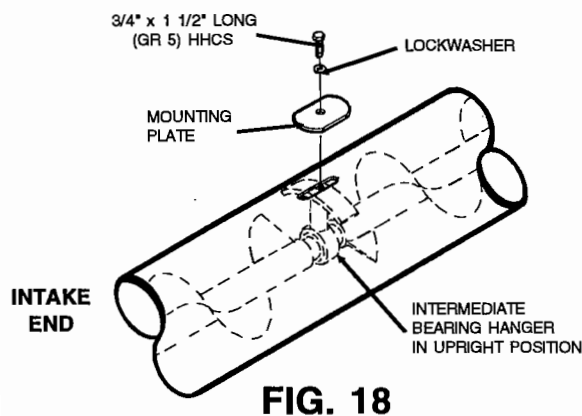
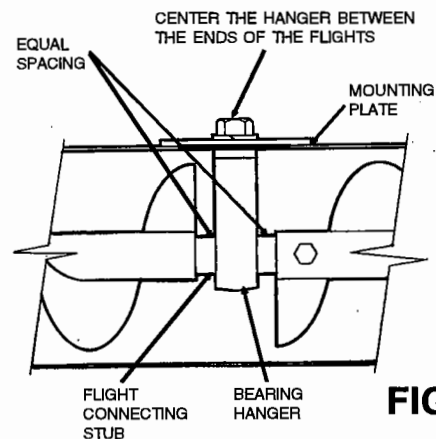

FIG. 18
FIG. 19
- C. Attach each bearing hanger to the auger housing using a mounting plate, a 3/4" x 1 1/2" long (grade 5) hex head capscrew and lockwasher as seen in Fig. 18. Before tightening the mounting bolts, adjust the bearing hangers so they are centered between the ends of the auger flights. (See Fig. 19.) This can be done by sliding the hanger back and forth in the slot to determine the approximate center.